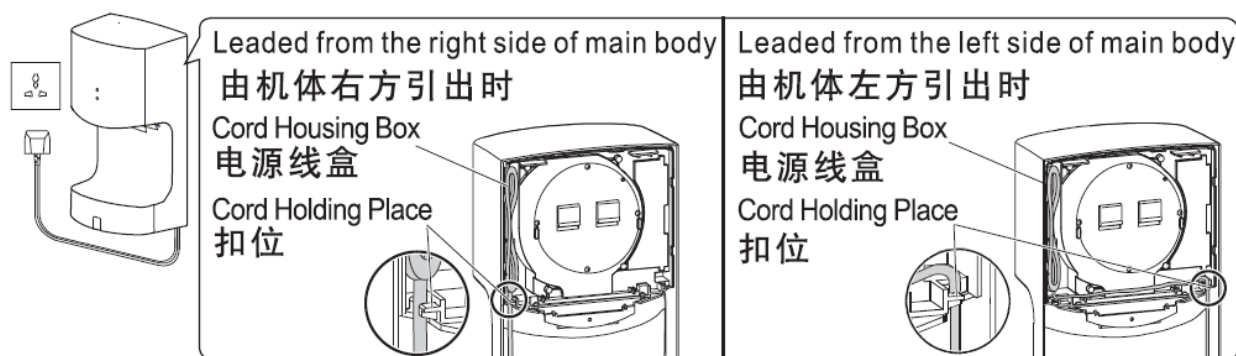

Fig.3 图3
- The power cord should be withheld on the corresponding cord holding place and leaded from the under direction of main body naturally.(Fig 3)
- 主机背部左右两侧各设有一个电源线引出位，请选择离电源插座较近的一侧引出电源线。(图3)